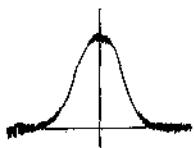

Fig. 2
1. Short-circuit the OSC stage by earthing the live side of the variable capacitor in that stage. Adjust the core of T101 so that the gain will be max. In this case, reduce the level of the input signal of signal generator so that the waveform will be one shown in Fig. 2.